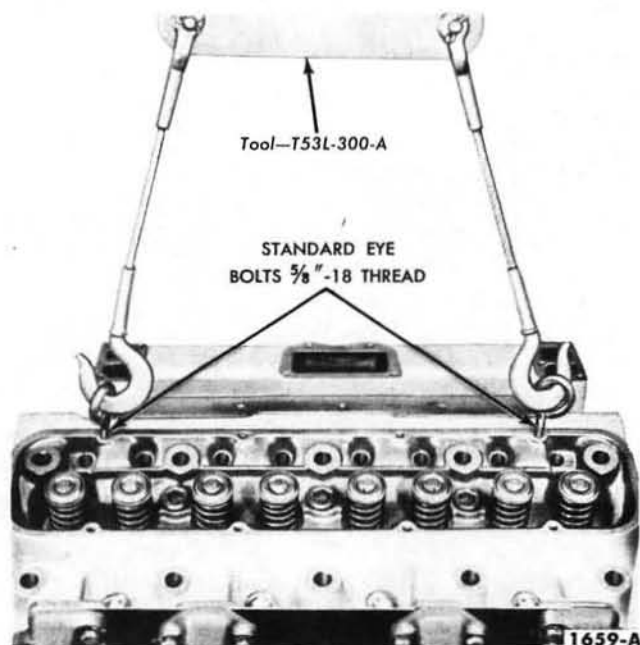

FIG. 20—Cylinder Head Removal or Installation
3. Install standard eye bolts with  $\frac{5}{8}$ -18 threads in the cylinder head and attach the engine lifting sling (Fig. 20). Remove the remaining cylinder head bolts. Raise the cylinder head and carefully remove it from the engine.